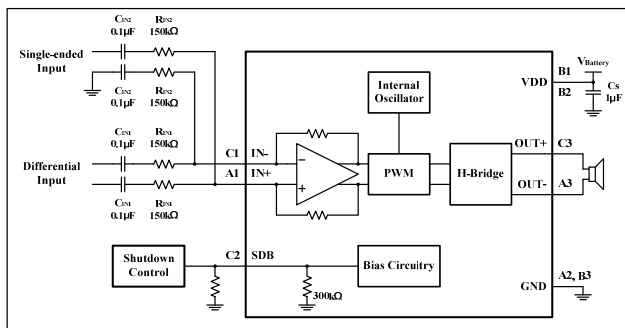

Figure 13 Summing Differential Input and Single-Ended Signals
Figure 13 shows how to sum a differential input signal and a single-ended input signal. Ground noise may couple in through IN- with this method. It is better to use differential inputs. The corner frequency of the single-ended input is set by C_{IN2} , shown in Equation (8). To assure that each input is balanced, the single-ended input must be driven by a low-impedance source even if the input is not in use.